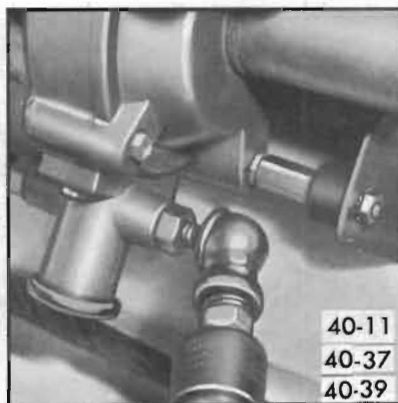

Figure 40-37—Filling System Through Service Valve
3. Inflate system through service valve to maximum available pressure. See Figure 40-37.